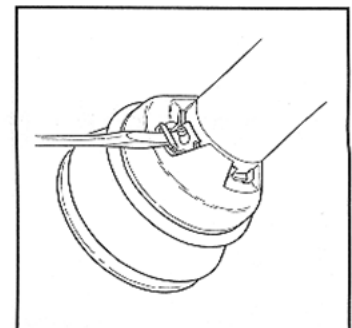

Figure 133: Remove Tab
1. Remove the EASY LOCK[®] tab with a screwdriver (Figure 133).